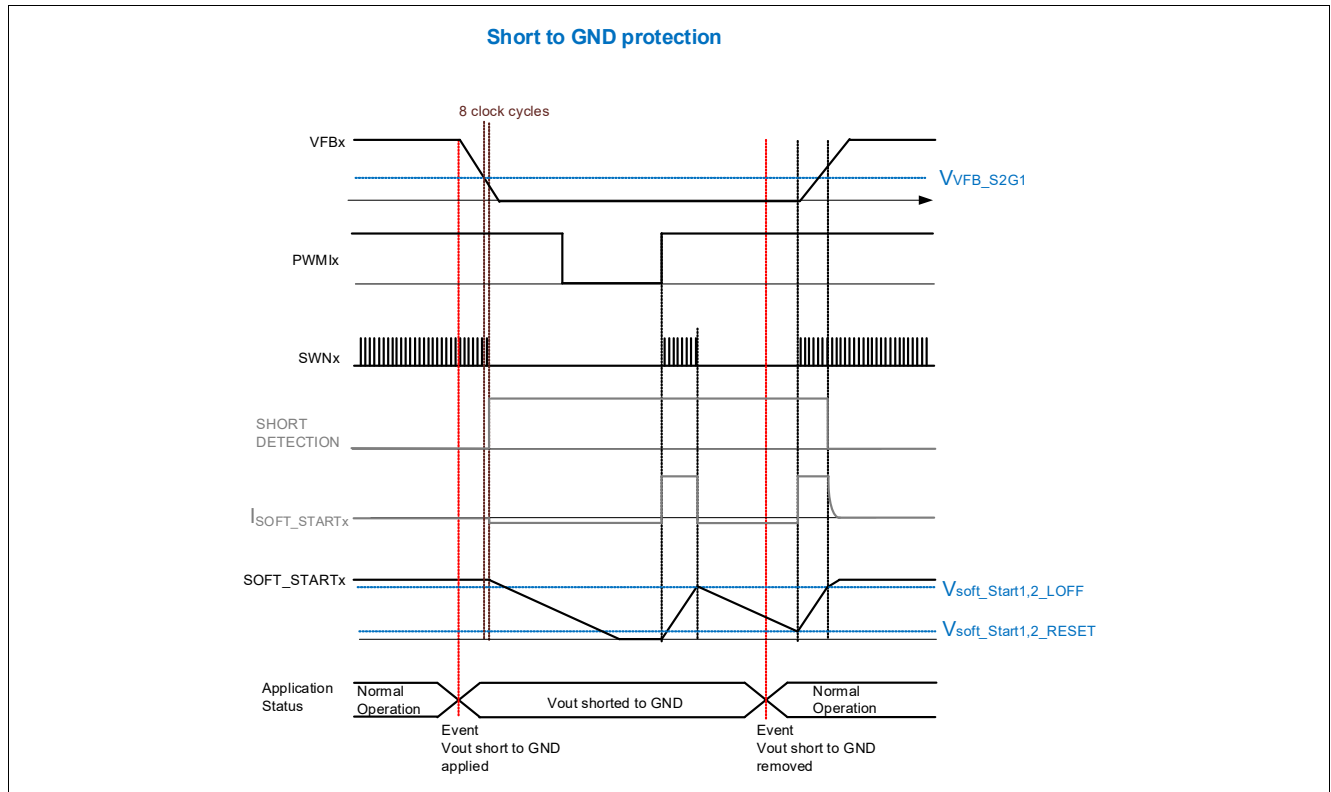

Figure 8 Soft Start timing diagram on a short to ground detected by the VFBx pin
- Fault management: fault mask and wait-before-retry time, on rising and falling edge of SOFT_START1,2 respectively (Figure 8 and Chapter 10.2)
If a short on the output is detected, a pull-down current source $I_{\text{SOFT_START1,2_PD}}$ (P_6.4.59) is activated. This current brings down the $V_{\text{SOFT_START1,2}}$ until $V_{\text{SOFT_START1,2_RESET}}$ (P_6.4.61) is reached, then the pull-up current source $I_{\text{SOFT_START1,2_PU}}$ (P_6.4.58) turns on again, if PWM1,2 is high, see Figure 8. If the fault condition hasn't been removed until $V_{\text{SOFT_START1,2_LOFF}}$ (P_6.4.60) is reached, the pull-down current source turns back on again, initiating a new cycle. This will continue until the fault is removed.